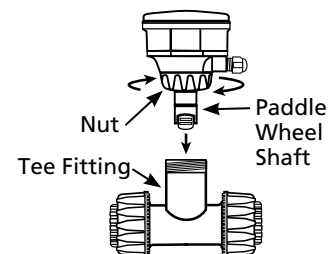

Figure 9
1. Follow motor and pump assembly instructions (see Figure 9). See page 10 for parts list.
2. The flow sensor electronic can be easily installed in flow chamber using the specially designed fitting system (Figure 9).
3. Insert paddle wheel shaft into tee fitting (Figure 9).
(Figure 9).